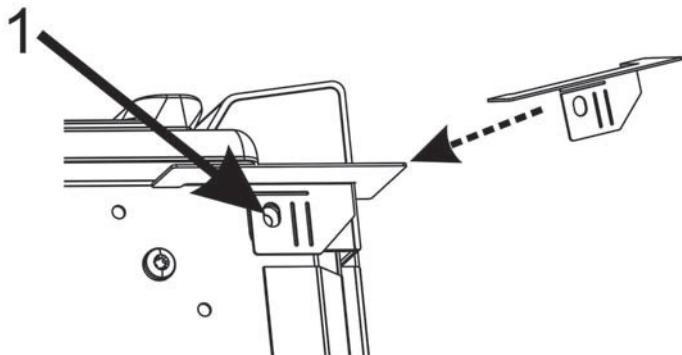

Figure 3: Right side corner cover placement
- Place the right corner piece as shown (see Figure 3: Right side corner cover placement). Align the round hole in the corner cover with the hole at 1.